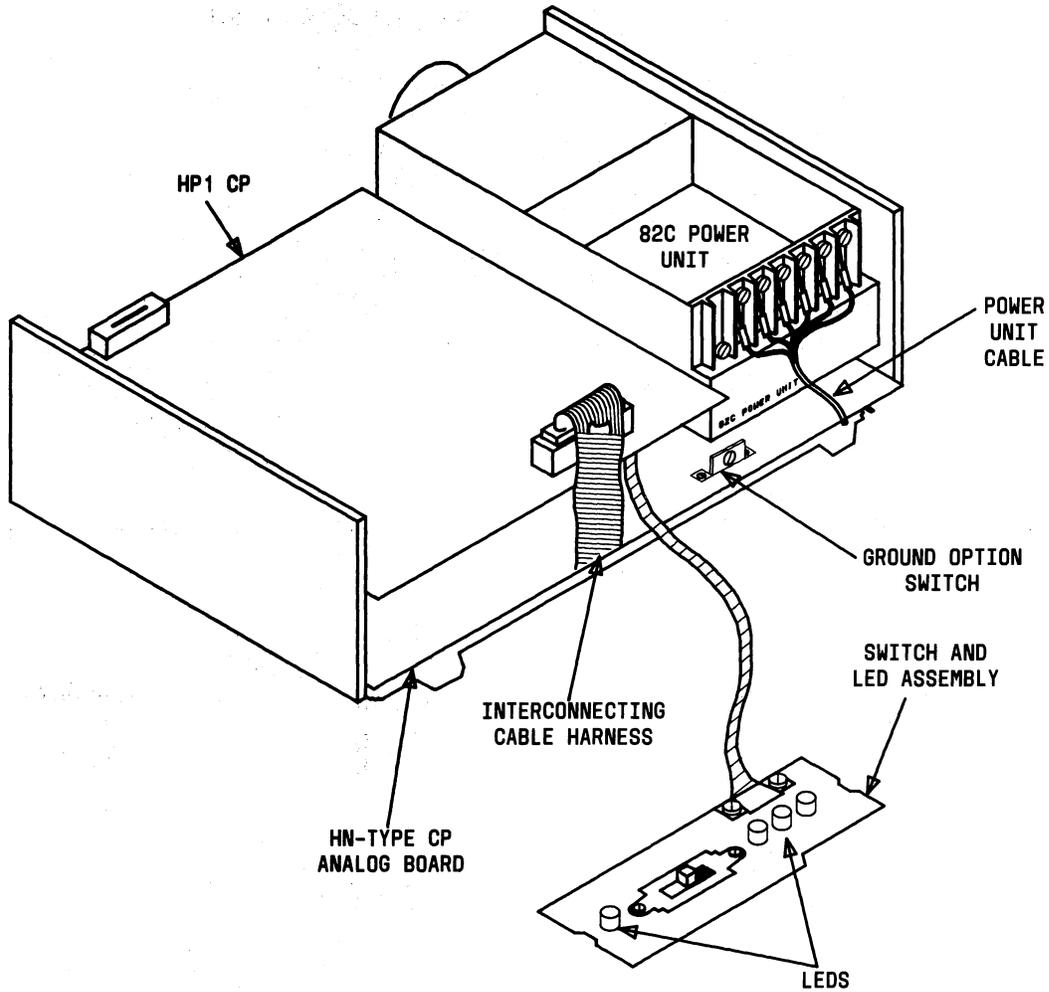

Fig. 4—500B-Type Data Service Unit—Front Internal View
3.09 The 500B DSUs must be adapted for mounting in the 48A-L1/2. The L1/2 designation provides bearing plates which are required for mounting the DSU in the data mounting. Figures 4 through 8 depict a 500B DSU being adapted for mounting into the 48A-L1/2 data mounting. The mounting procedure is as follows: